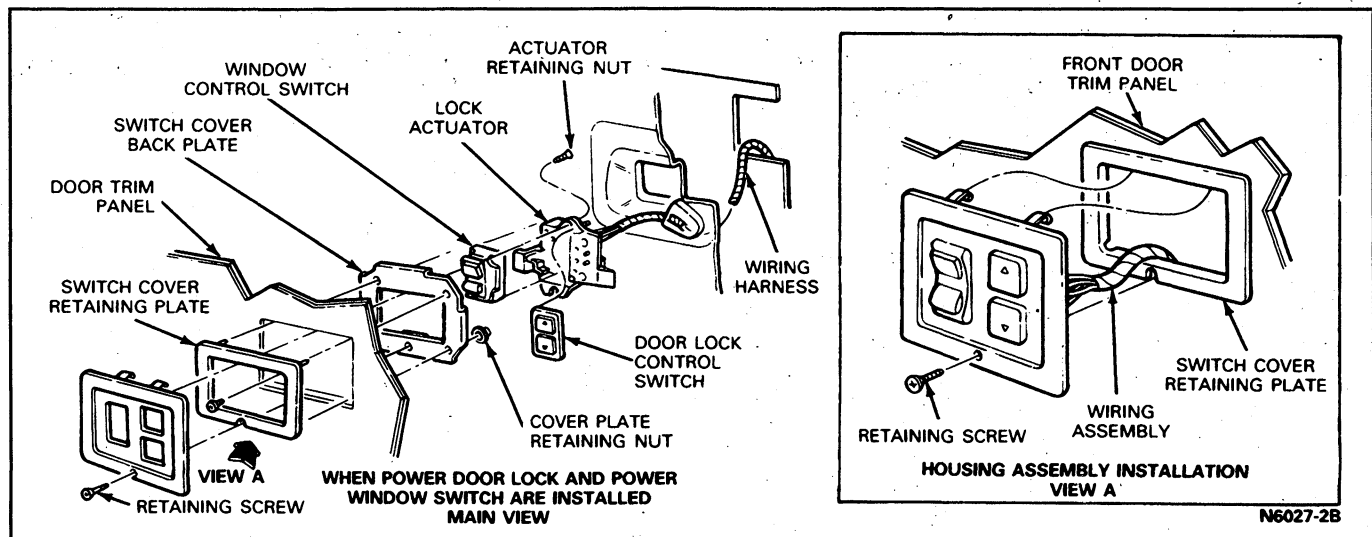

FIG. 6 Door Lock Control Switch—E150—E-350
2. Disconnect the actuator motor (Figs. 6 and 7) link from the door latch.
4. Disconnect the wire harness plug at the motor connector (Figs. 6 and 8).
1. Connect wire harness plug at actuator motor connector (Figs. 6 and 8).
2. Install door lock actuator motor in door with pop rivet (Figs. 6 and 7).
Refer to Fig. 6.